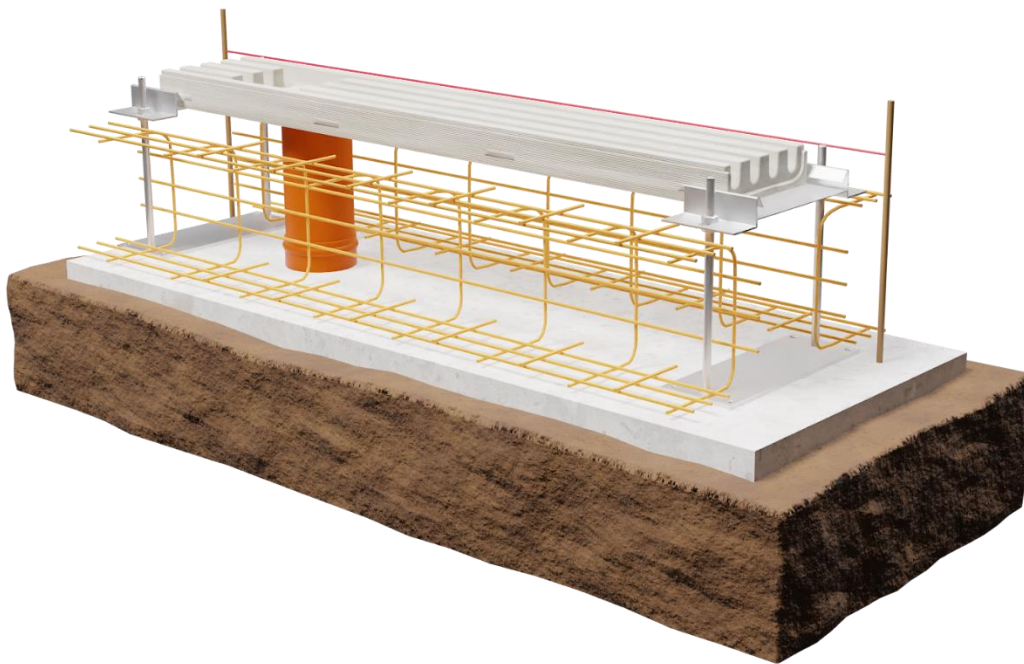

Figure 4
6. Mount the upper parts at the corresponding construction height – see **Figure 4** – and roughly adjust the height using the nuts. Then place the upper part – see **Figure 4**. We recommend using a guideline for lateral alignment and the top edge of the channel. The top edge of the channel should be approximately 3-5 mm below the final surface level. All adjacent surfaces should be arranged approximately 3-5 mm higher than the top edge of the channel to prevent mechanical damage (e.g., from cleaning services) and ensure proper water drainage.